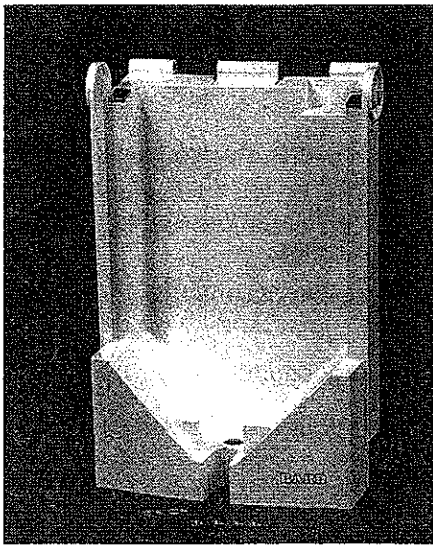

Figure 53
**Note:** Figure 53 illustrates the front enclosure without the handle and arms.